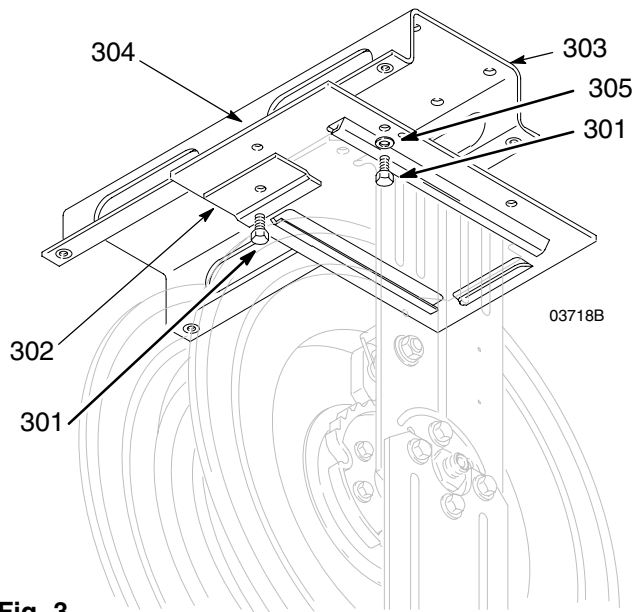

Fig. 3
1. Install the mounting frame (303) and base plate (304) as shown in Fig. 3.
3. Slide the hose reel onto the base plate (304) and install the hold-down plate (302) and capscrew (301). Tighten the screw firmly. See Fig. 3.
NOTE: The reel base is slotted (A) to allow two screws to be started before mounting the reel to the support. See Fig. 3.